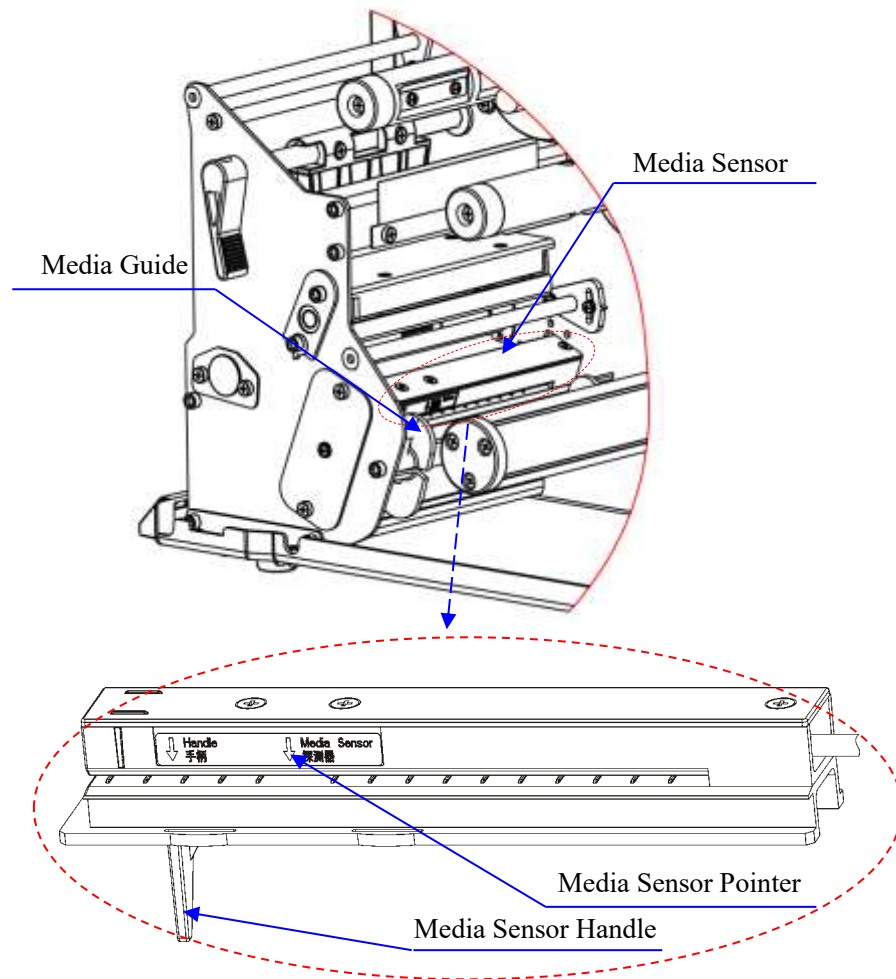

Figure 2-14
6. Move the Media Sensor to the appropriate position (see Figure 2-14). Adjust the Media Sensor to ensure that its position is aligned above the media's separation identifier (e.g. gap, black line, perforation, hole, etc.)
7. Move the Media Guide Slide to the edge of the media, making sure not to pinch or squeeze the media; keep the media flat and smooth. See Figure 2-14.